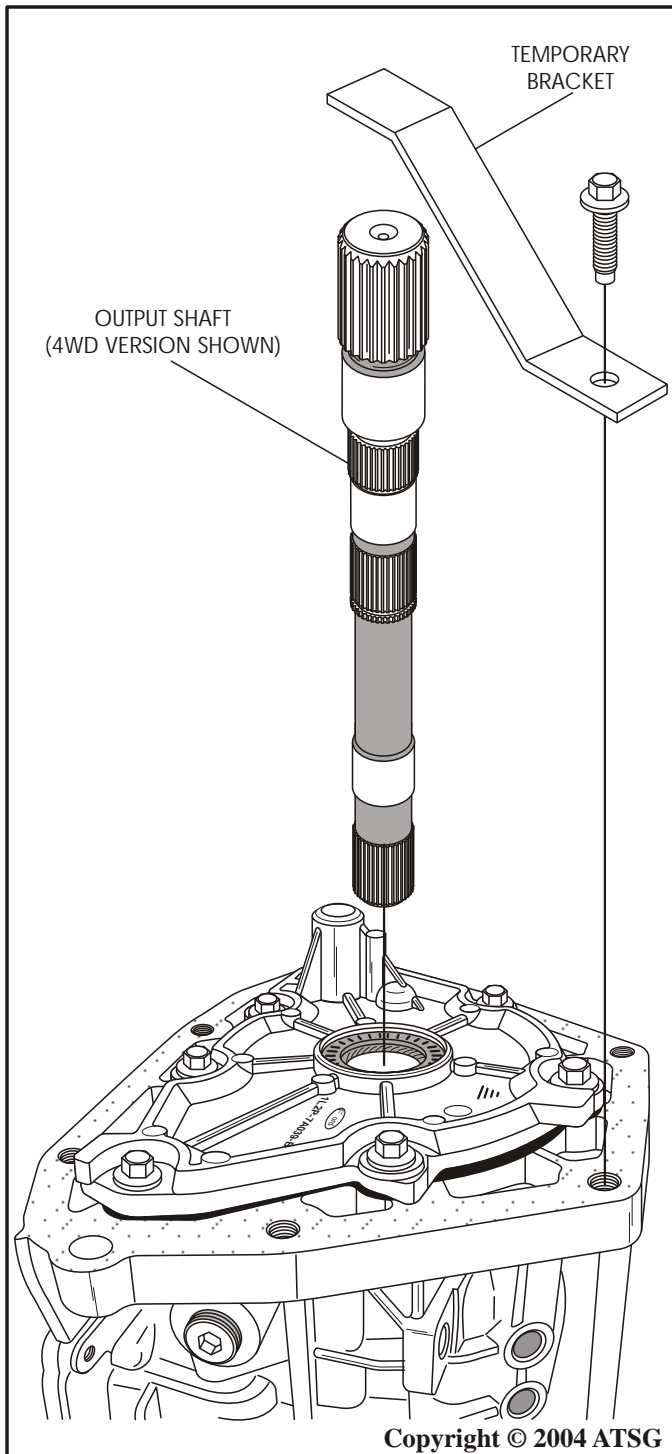

Figure 52
60. Rotate the transmission so that output shaft is facing up, as shown in Figure 52.
61. Remove the temporary retaining bracket and the output shaft, as shown in Figure 52.